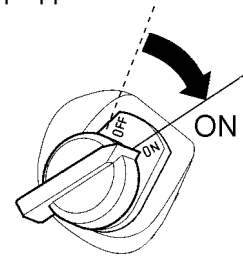

Figure 14. Engine ON/OFF Switch (ON)
5. Place the **engine ON/OFF switch** (Figure 14) in the "ON" position. This step applies to units with S/N 5497957 and above.